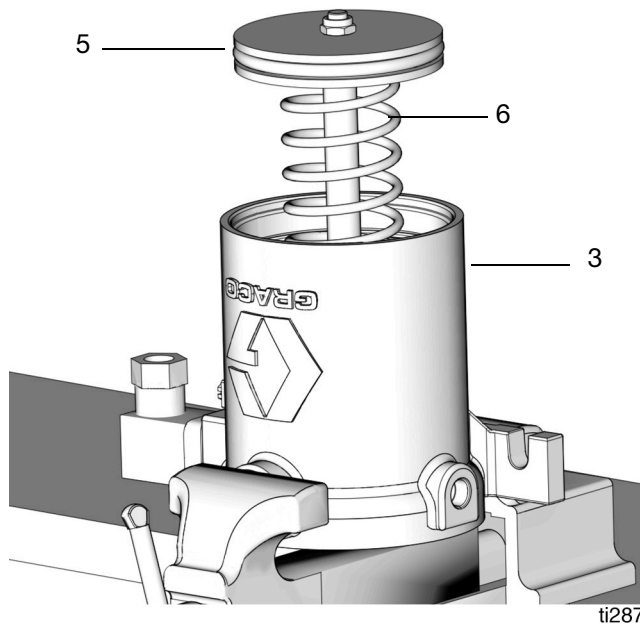

FIG. 33
9. Install the spring (6) over the piston rod (34) and install spring and piston rod into the air cylinder (3) (FIG. 33).